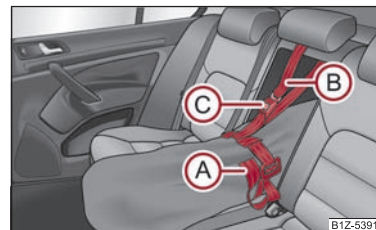

Fig. 101 Securing the removable through-loading bag
- Tighten the strap (A) on the free end around the skis in front of the bindings ⇒ fig. 101.
- Guide the securing strap (B) through the opening in the seat backrest around the upper part of the seat backrest.
- Insert the securing strap (B) into the lock (C) until it is heard to lock in place.